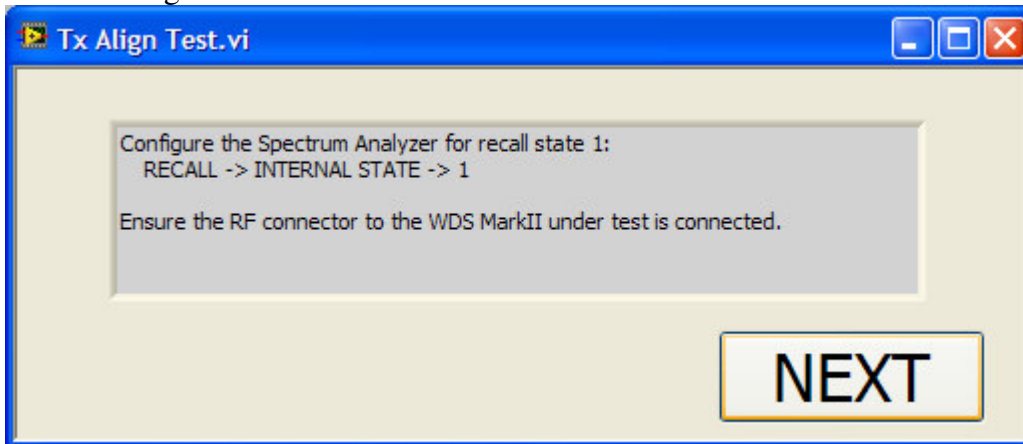

Figure 5-3 Spectrum Analyzer state 1.
- c) Supply voltages and load current are tested, the microprocessor is programmed, the UART, and TxPower Digital to Analog Converter and DIP switch inputs are verified. At this point the user will be asked to configure the spectrum analyzer to state 1 and measure the RF Transmit Power at Channel 2406MHz. This will be done through the dialog shown in Figure 5-3. Follow the instructions indicated in the dialog.